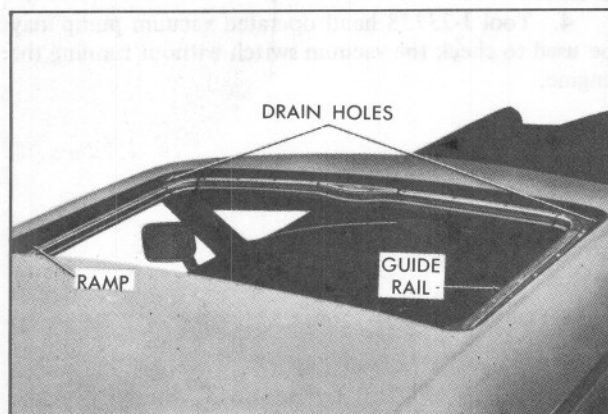

Fig. 15-14 Sunroof Fully Opened
toward the letters "OPN". The roof panel then retracts down and rearward, moving on guide rails, Fig. 15-14, from the flush roof position back into a storage space between the headlining and the roof. To close the roof panel, the switch is moved upward, toward the letters "CLS". The panel then moves forward in the guide rails and, as it nears the end of forward travel, the rear portion moves upward on two ramps, Fig. 15-14. This positions the panel flush with the roof and seals it tightly in the opening.
2. Examine ramps in drainage channel, Fig. 15-14 to determine if they are properly aligned with lifting elements at rear of panel.